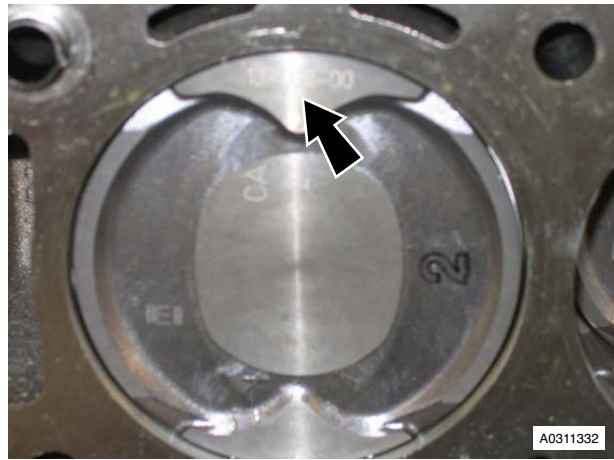

Figure 14
33. Note that piston grade number on crown and thick flange on connecting rod faces to front of engine on RH bank (A) (see Figure 14).